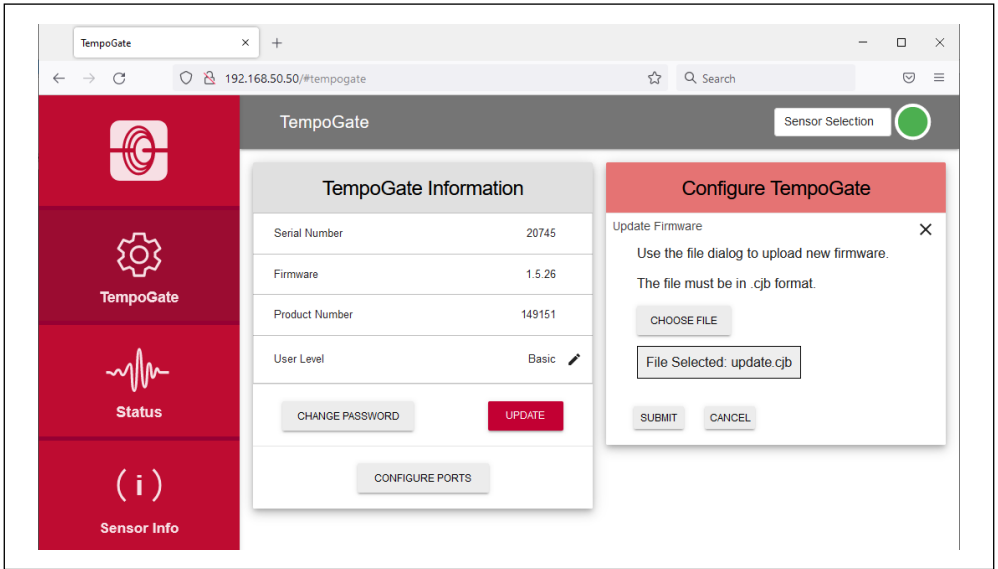

Fig. 33: Selected file for firmware update
- Click the SUBMIT button to execute the update (Fig. 33).